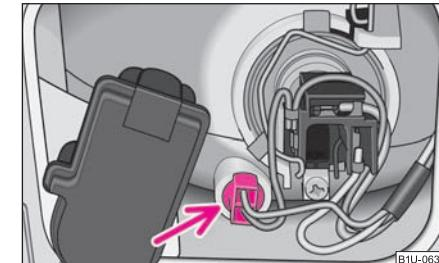

Fig. 175 Change the light bulb for the parking light
- Pull the lamp holder with light bulb for the parking light out of the headlight ⇒ fig. 175.